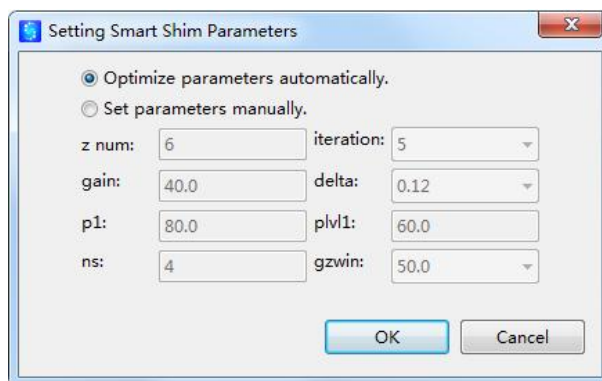

Figure 2.27 Parameter setting dialog
- (1) If **Make Map** is selected, a new field map will be made first. The default way is to make field map using automatically optimized parameters. User can click **Setting** button to open a dialog box, then select "Set parameters manually" to set up proper values for each parameter, as shown in Figure 2.27.